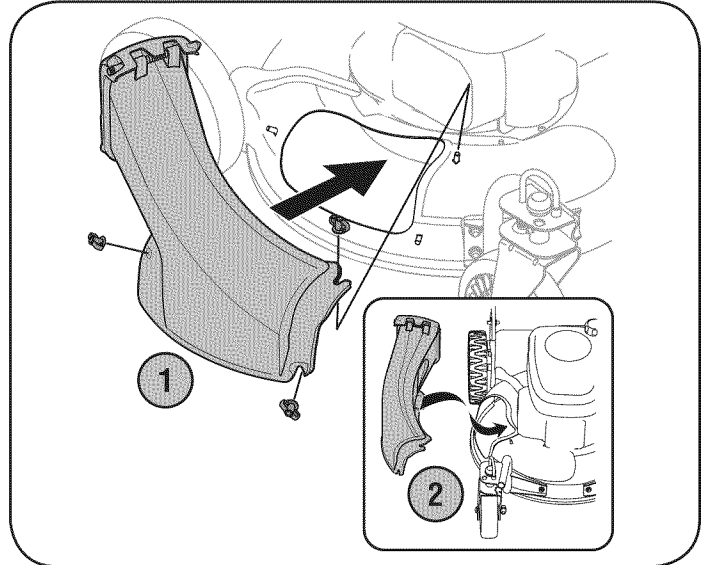

Figure 4
- Remove three wing nuts holding the mulching baffle in place and remove from unit. See Figure 4.